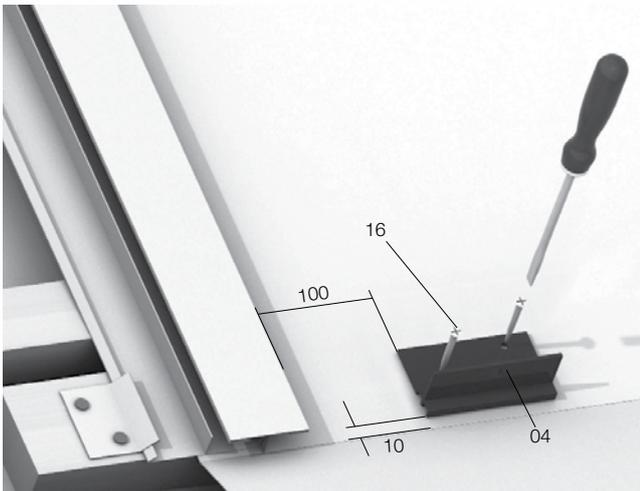

Figure 67: Fixing of bottom Mounting Brackets
1. Position mounting brackets (04) at the bottom of the base tray with the bottom edge of the mounting brackets 10mm above the bottom edge of the base tray. Refer to Figure 67 and 68. Carefully mark their position on the base tray with a pencil.
Ensure brackets are correctly positioned with the two holes at the top. Remove protective film from underside of brackets and press them into place in the correct position. Fix in place with the self-drilling screws supplied in the kit using the Torx 25 screwdriver bit provided in the kit. Refer to Figure 67.